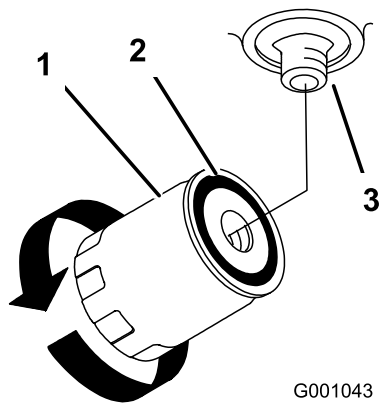

Figure 74
4. Remove the old filter and wipe the filter adapter gasket surface clean (Figure 74).
6. Install replacement hydraulic filter onto the filter adapter. Turn the oil filter clockwise until the rubber gasket contacts the filter adapter, then tighten the filter an additional 1/2 turn (Figure 74).